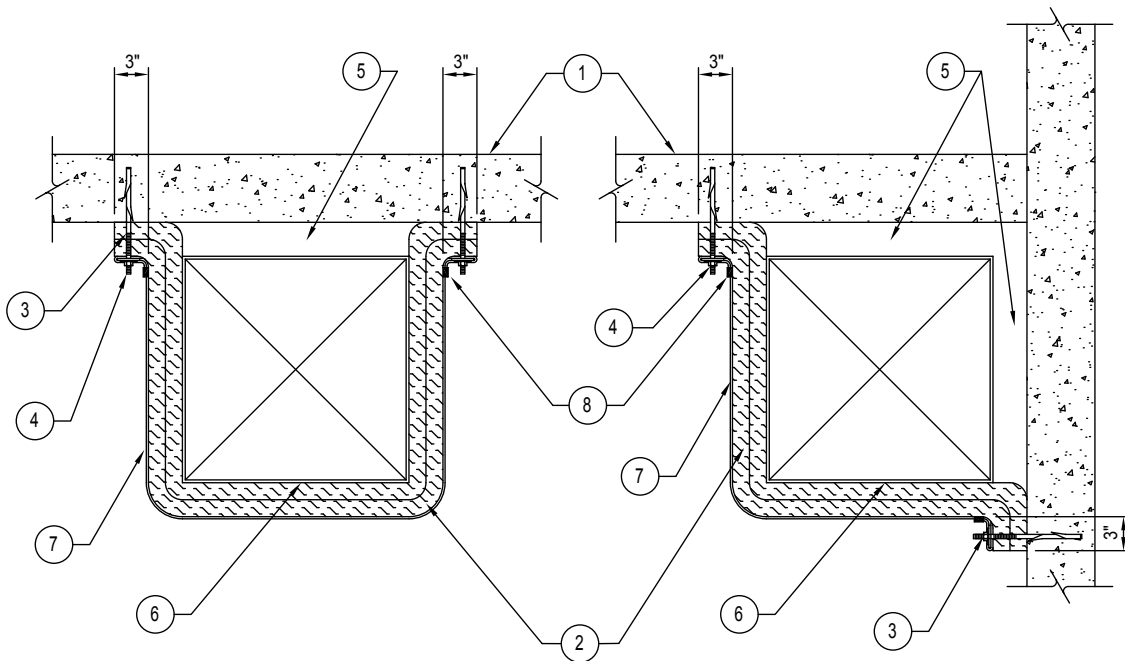

FIGURE 4
C. 2 & 3 Sided Wrap Installation (Figure 4)
When space does not allow for a complete wrap applied to the duct on all four sides, the Duct Wrap XL is approved for 2 or 3 sided installations with mechanical attachment to a rated concrete or CMU assembly. (See Figure 4 for installation details.)